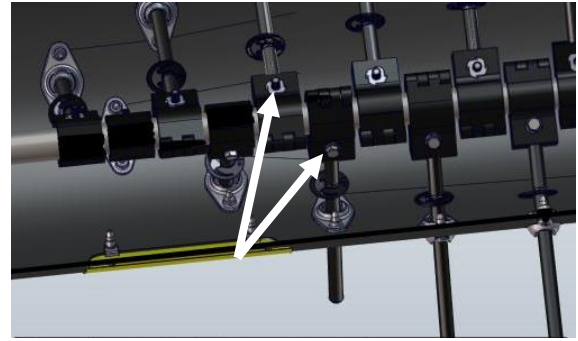

Figure 35
13. Remove the fingers by removing the lower retaining bolts. This will allow the fingers and the clamps to be removed. Figure 35